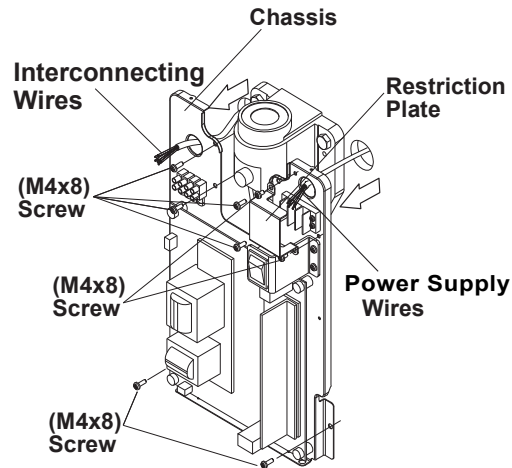

Fig.3-3 Attaching Chassis to Wall Plate
1. Remove the restriction plate over the terminal blocks by taking out two (M 4 x 8mm) screws. (Fig.3-3)
2. Route electrical interconnecting wires and power supply wires through the access holes on chassis and mount the chassis on the arm bracket with three of four (M4 x 8mm) screws. (A screw at lower right corner should be secured with a green wire from arm at setp D 6. on page 10.) Secure bottom corner of chassis with two (M4 x 8mm) screws to the wall plate. (Fig.3-3)
4. Reattach the restriction plate. (Fig.3-3)